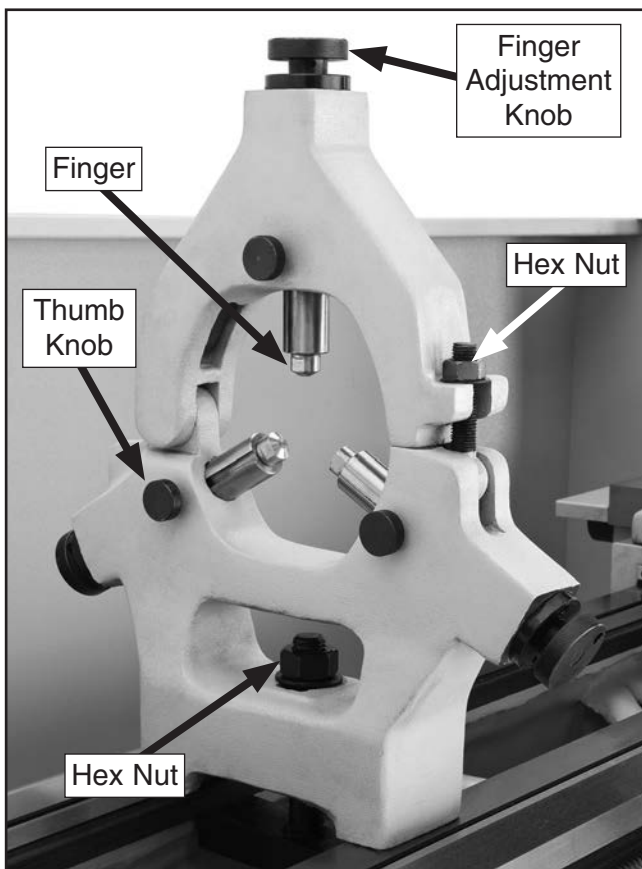

Figure 59. Steady rest components.
3. Position the steady rest with the base clamp where required to properly support the workpiece, then tighten the bottom hex nut shown in **Figure 59** to secure it in place.